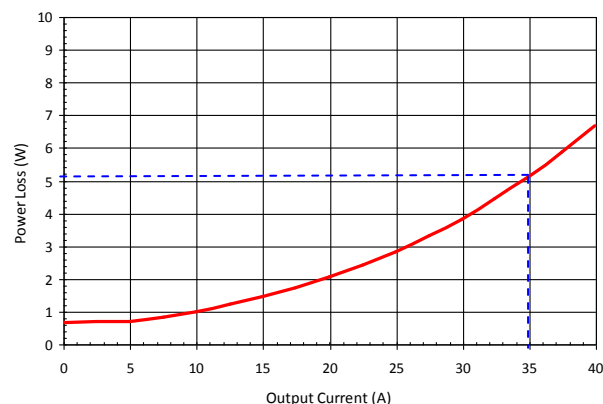

Figure 9: Typical IR3558 Power Loss
If any of the application condition, i.e. input voltage, output voltage, switching frequency, PVCC (HVCC/LVCC) MOSFET driver voltage or inductance, is different from those of Figure 9, a set of normalized power loss curves should be used. Obtain the normalizing factors from Figures 11-15 for the new application conditions; multiply these factors by the power loss obtained from Figure 9 for the required load current.
- 1) Determine the power loss at 35A under the default test conditions of $V_{IN}=12V$, $V_{OUT}=1.2V$, $f_{SW} = 400kHz$, $L=150nH$, PVCC (HVCC/LVCC) = 7V, $T_{AMBIENT} = 25^{\circ}C$, no heat sink, and no air flow. It is 5.2W from Figure 9.